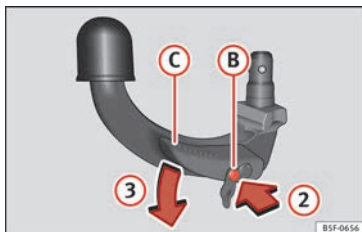

Fig. 224 Step 2.
- Press the release bolt (B) in the direction of arrow ②, and at the same time press lever (C) in the direction of arrow ③ as far as it will go »» Fig. 224.